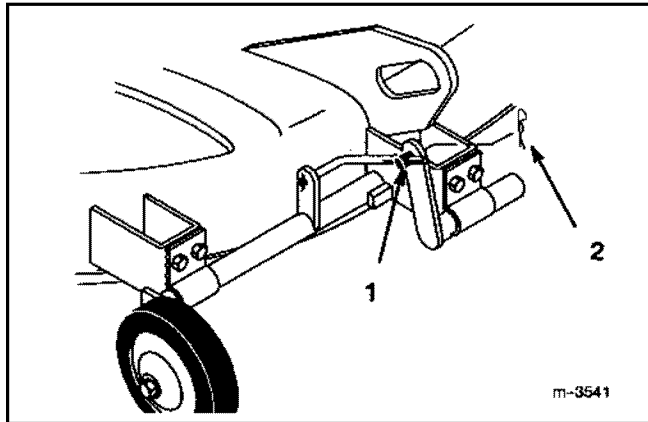

Figure 54 260_38_3.TIF
1. Raise attachment lift lever to release pressure on the gage wheels. Remove the 7/16 inch (10.9mm) hairpin cotter from the trunnion (Figure 54).